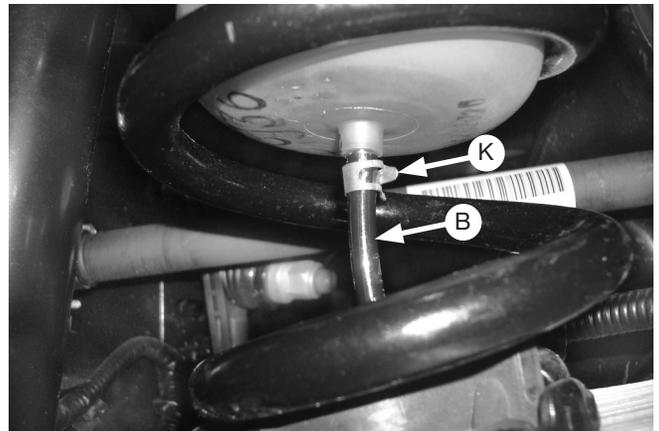

Fig. 6
- Using a pair of pliers, slide an air line clamp (K) over one end of the air line (B). Push the air line over the barbed stem of the air spring completely and slide the clamp over the barbed stem area (Fig. 6). Once the air line is installed, completely push the cylinder to the bottom of the coil spring.